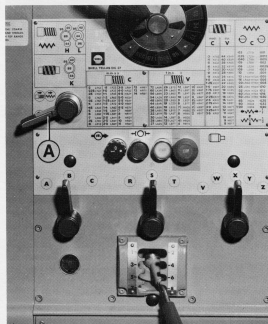

Fig. 12
THREAD AND FEED SELECTION – Fig. 12
All threads and feeds directly available from the gearbox are given on the data plate fitted at the front of the headstock, with the settings of control levers shown in Fig. 12.
1. Push-pull knob (D) selects power surfacing or sliding feeds; push in for sliding, pull out for surfacing operation.
2. Lever (E) is moved to left for power feed engagement, to right for manual operation.
3. Lever (F) is pressed down to engage leadscrew nut for screw cutting.
Use headstock lever (A) of Fig. 12 for reversing feed; and, left-hand screw cutting.